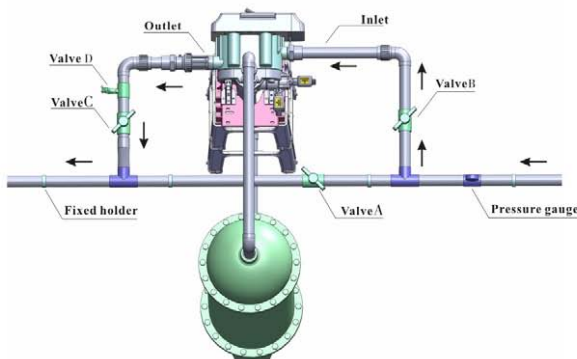

Figure 1-4
③Pipeline connection
- As Figure 1-4 shows, install a pressure gauge in water inlet.